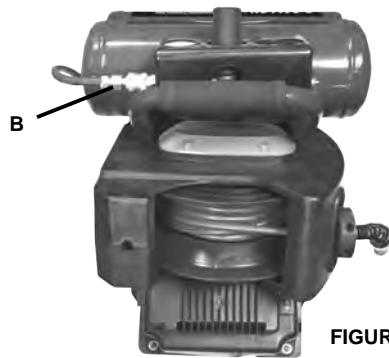

FIGURE 7
- 2) Attach the 1/4in. female fitting (Fig.7) to one end of the air hose, then connect the female fitting into the quick connect outlet at the back of the compressor (B), then attach the 1/4in. female quick connect to the other end of the air hose. Attach optional air tool or supplied accessories. To prevent air leaks, it is recommended to install Teflon Tape (not supplied) on the threads at both ends of the air hose.